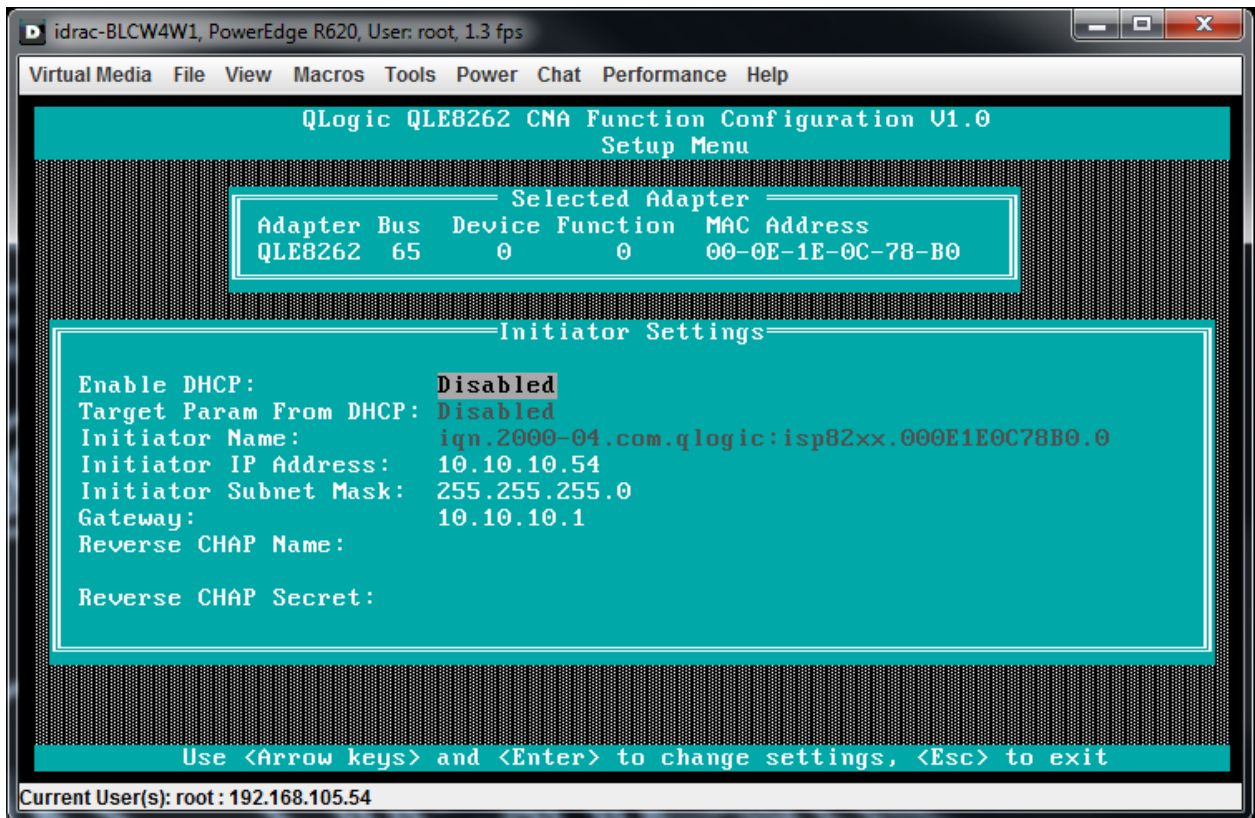

Figure 12 Initiator settings for Qlogic network adapters
5. Enter the **Initiator Settings** menu and disable DHCP, then enter the initiator details such as: Initiator IP address, subnet mask, gateway, and CHAP details as needed. See Figure 12 below.